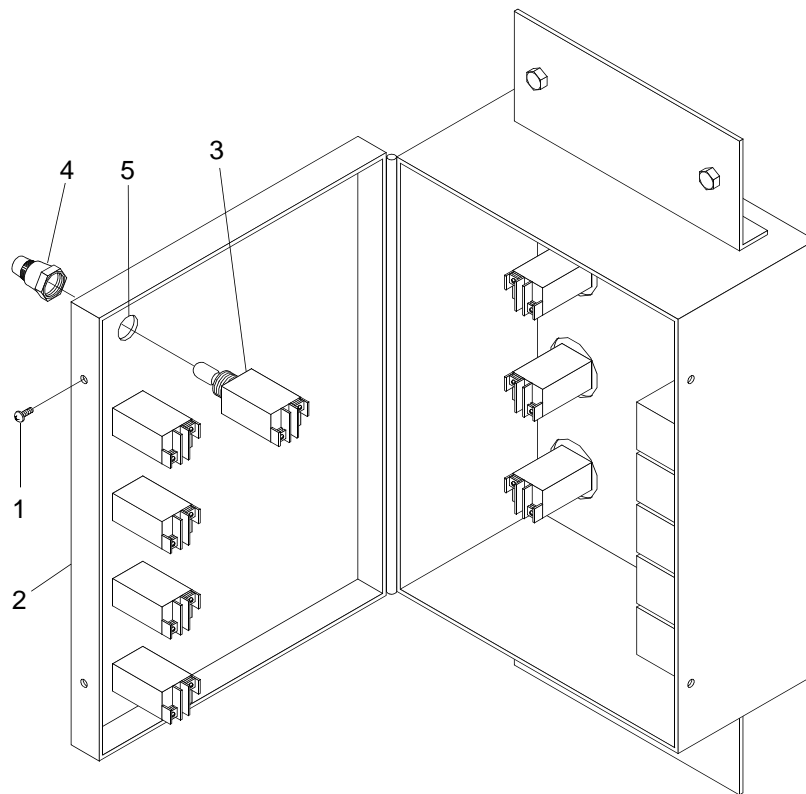

Figure 2. Fuel Tank Signal Box Light Assembly
2. Remove screws (figure 2, item 1) and open fuel tank signal box door (figure 2, item 2).
3. Label wires and remove wire lugs from light assembly (figure 2, item 3).
4. Remove retaining nut (figure 2, item 4) and light assembly (figure 2, item 3) and discard.
5. Remove retaining nut (figure 2, item 4) from new light assembly (figure 2, item 3).
6. Insert new light assembly (figure 2, item 3) in mounting hole (figure 2, item 5).
7. Install and tighten retaining nut (figure 2, item 4) on light assembly (figure 2, item 3).
8. Connect wires to light assembly (figure 2, item 3).
9. Close fuel tank signal box door (figure 2, item 2) and secure with screws (figure 2, item 1).